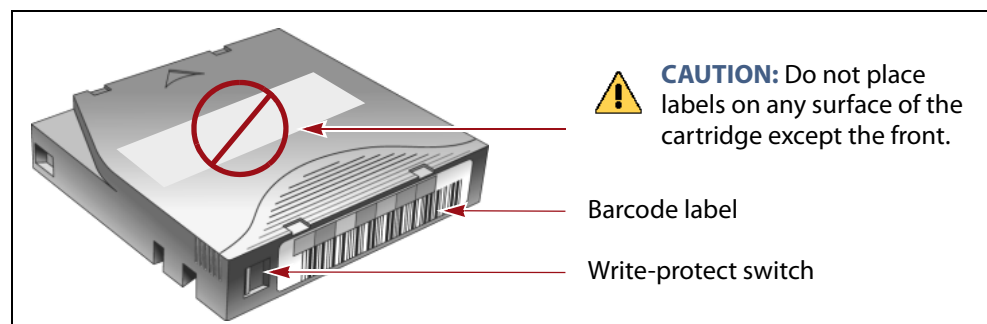

Figure 145 Attach barcode labels to cartridges and check write-protect switch setting (LTO cartridge shown.).
1. If your cartridges are unlabeled, prepare and affix a barcode label to each cartridge. Position each label in the indented area on the cartridge, as illustrated in Figure 145. See Barcode Label Specifications on page 550 for detailed information about barcode labels.
Do not place labels on any surface of the cartridge except the area shown in Figure 145. An improperly positioned label can become dislodged and damage the drive.